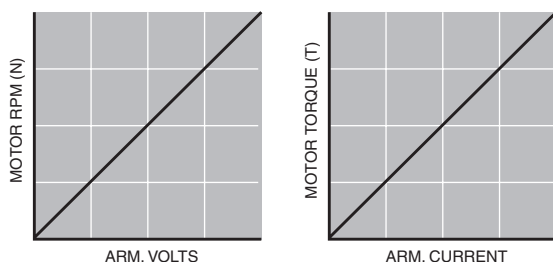

FIGURE 5. DC Motor Characteristics
The speed (N) of a DC motor is proportional to its armature voltage; the torque (T) is proportional to armature current, and the two quantities are independent, as illustrated in Figure 5.